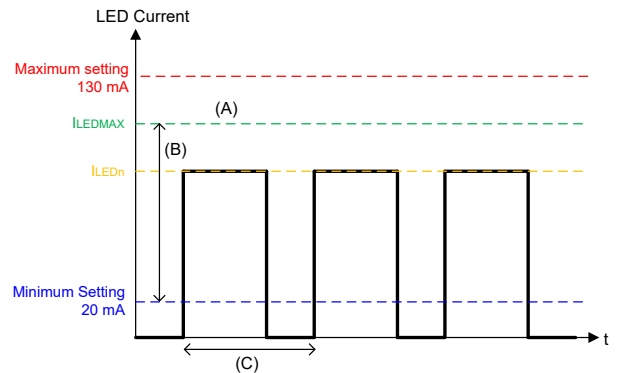

Figure 5. Setting Range by Dimming Method
To summarize (1) to (3), the LED current setting, PWM dimming, DC dimming are schematically shown as Figure 5.